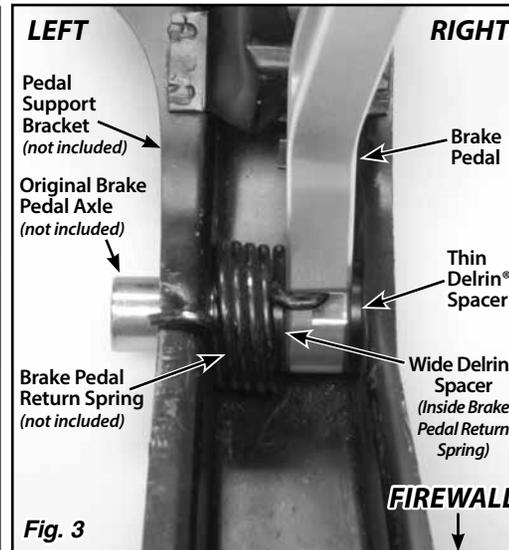

Fig. 3
**Step 4:** Use a large screwdriver or small pry bar to pry the top of the pedal to the left, and insert the thin Delrin® spacer into the gap between the top of the brake pedal and the right side of the pedal support bracket. Push the original brake pedal axle through the thin Delrin® spacer, and through the right side of the pedal support bracket. Fig. 3